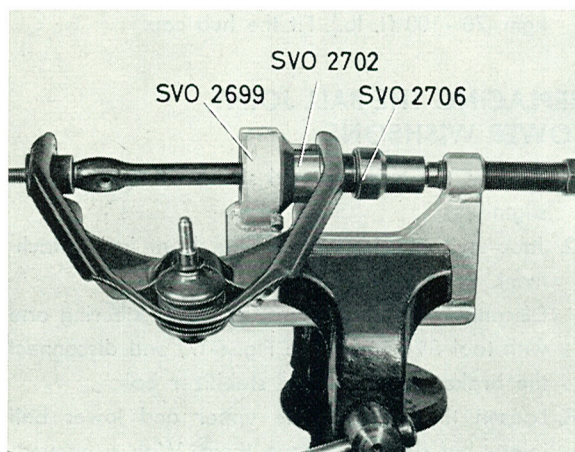

Fig. 6-28. Fitting the second rubber bush, upper wishbone
4. Fit the wishbone shaft and press in the other bush with the sleeve SVO 2702 + drift SVO 2706, see Fig. 6-28. Make sure that the shaft fits the recess of the tool SVO 2702.
5. Fit the washers (2) and the nuts (1). Tighten the nuts when the wishbone is fitted.